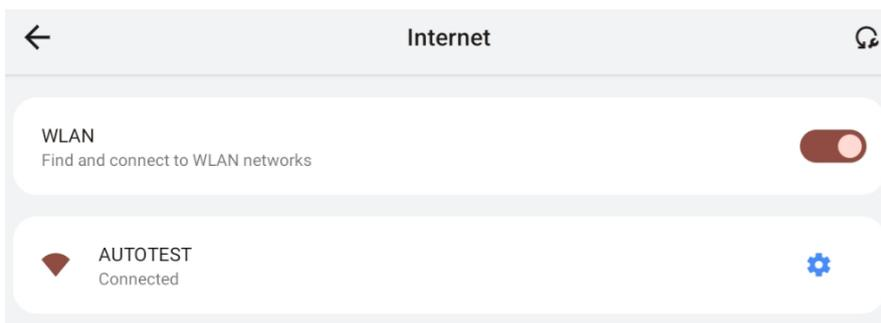

Figure 23
4. Make sure that you are connected to a Wi-Fi network. This will help hasten your location determination (Figure 23).